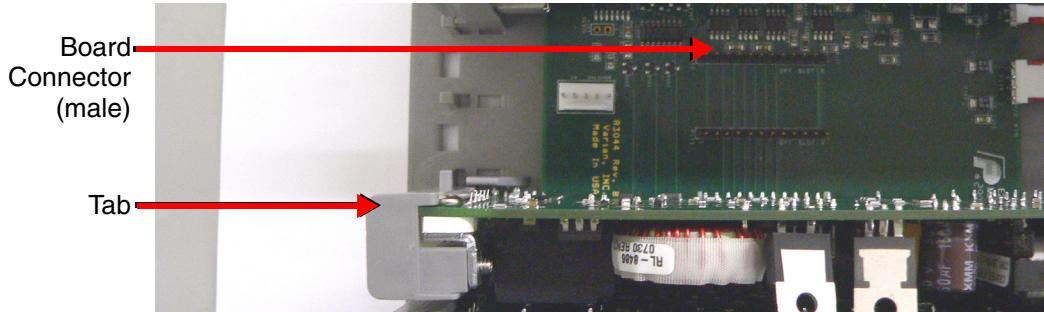

Figure 4-2 Tab and Main Board Connector
4. Lift the sensor board by the tab at the rear panel (Figure 4-2). Once the board is disengaged from the board connector, pull the board out of the end guide.